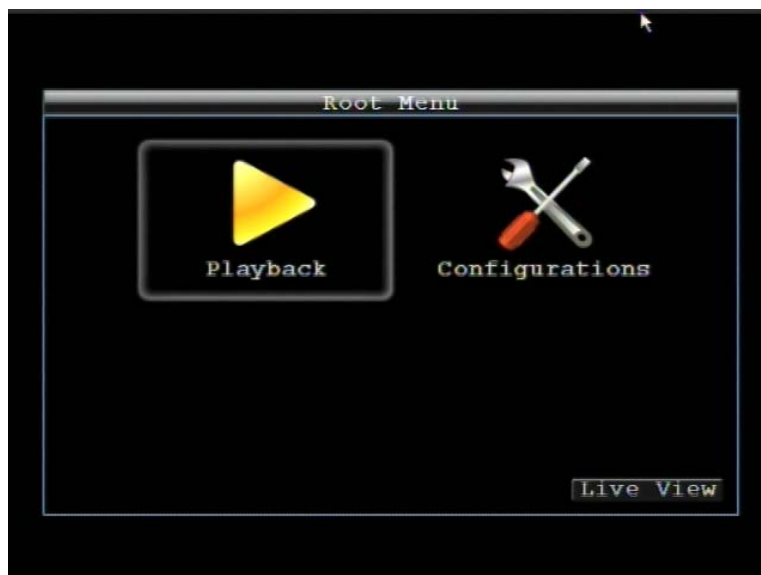

Figure 2-1 OSD Root Menu
1. Right-click the mouse to obtain the DVR Root menu (see Figure 2-1 OSD Root Menu ).